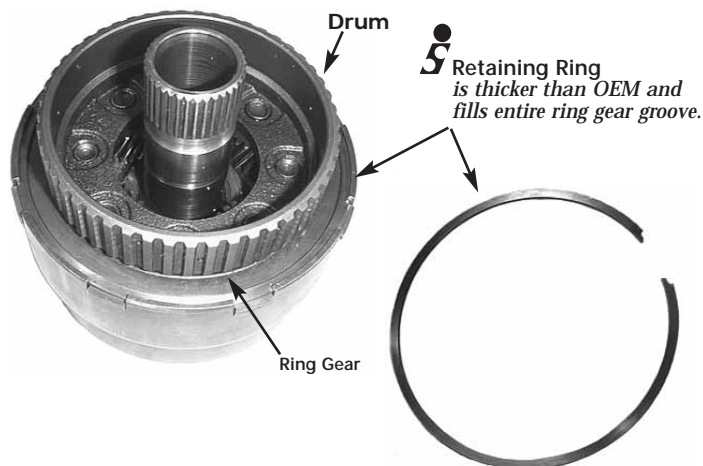

Figure 3
4. The Sonnax pump shaft 96855-02K has a unique design to increase cooler flow and minimize debris-related restrictions. The inner tube is not round in cross section, but oval. When reinstalling a Sonnax oval inner tube, 96855-03 (patent pending), it is critical to have the flat sides of the inner tube facing the pump shaft cross holes (Figure 3).